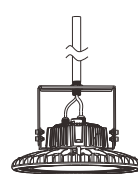

Figure 11
4. After installation, please wire in accordance with local connection standard, and make sure there is a good joint protective measures. (Figure 11). Users can adjust 50 degrees to left and right in vertical direction by adjusting the screw on the bracket.